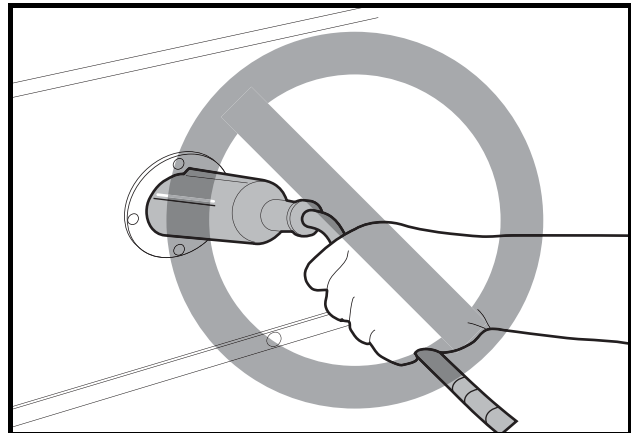

Figure 16 Incorrect Insertion of Charger DC Plug
- Do not pull on the DC cord (Figure 16, Page 32). Do not twist, rock or bend the plug. To disconnect the charger plug from the vehicle receptacle, grasp the plug by the handle and pull the plug straight out of the receptacle.